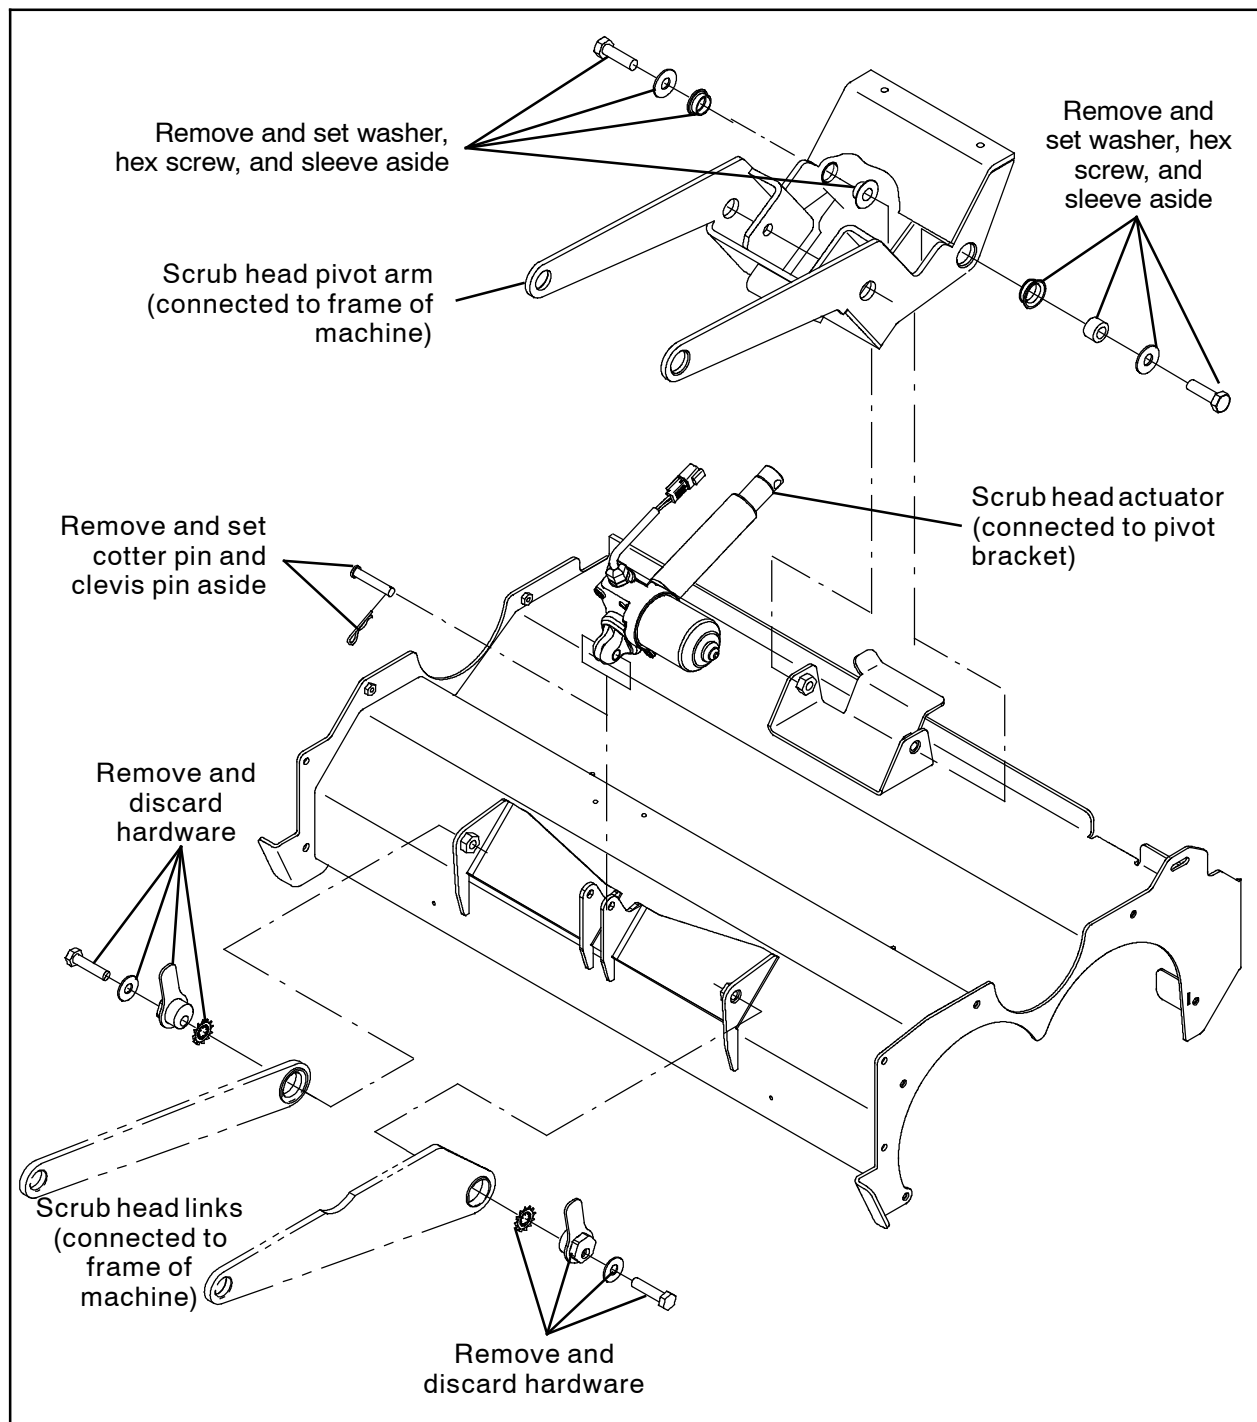

FIG. 2
4. Disconnect the actuator from the scrub head. Set the cotter pin and clevis pin aside. (Fig. 2)
5. Disconnect both scrub head links from the scrub head. Discard the washers, hex screws, and lift pivots. (Fig. 2)
6. Disconnect the scrub head pivot arm from the scrub head. Save the washers, hex screws, and both sleeves. (Fig. 2)